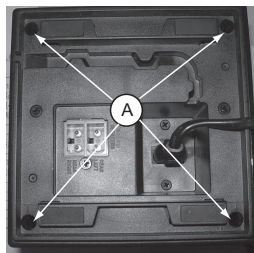

Figure 1
- 1) Loosen 4 screws "A" on the bottom and remove the front & top Cover by lifting the panel upwards before sliding it from the set as shown in figure 1.